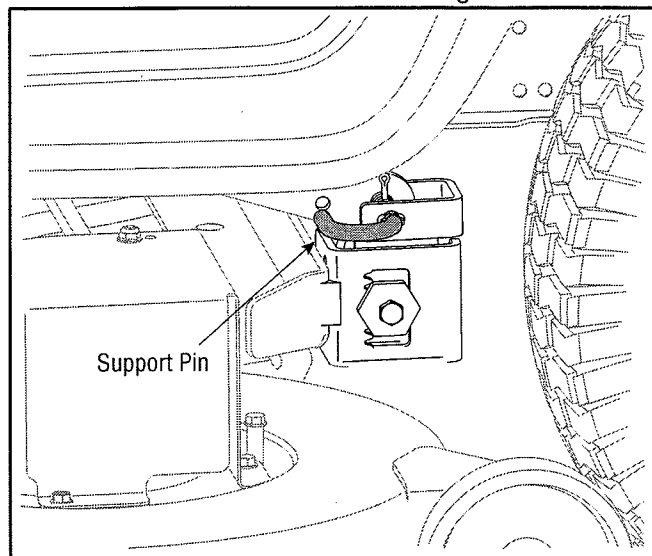

Figure 25
5. Pull the deck support pin outward to release the deck from the deck lift arm. See Figure 25.